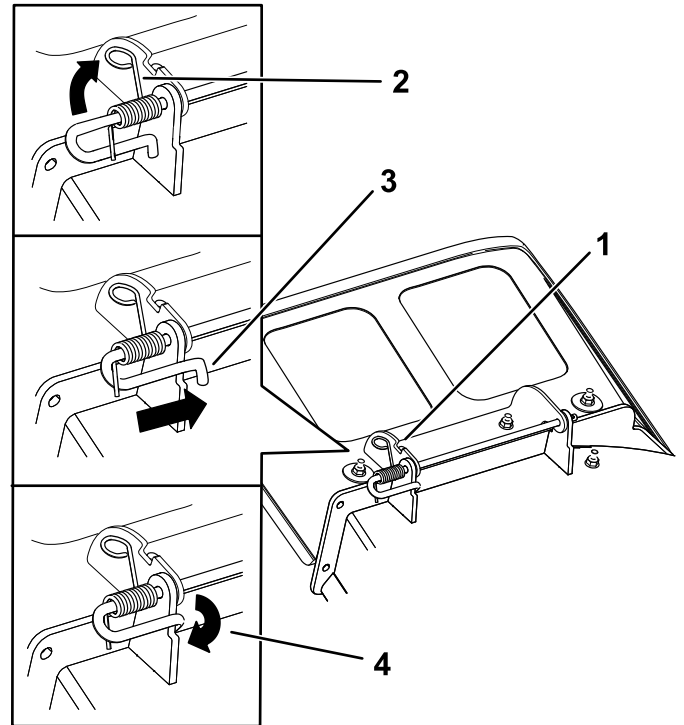

Figure 80
3. Position the new discharge deflector with the bracket ends between the welded brackets on the deck as shown in Figure 80.
5. Position the spring on the rod as shown in Figure 80 so that the shorter spring end comes from under the rod before the bend and going over the rod as it returns from the bend.
6. Lift the loop end of the spring and place it into the notch on the deflector bracket (Figure 80).
7. Secure the rod and spring assembly by twisting it so that the short end of the rod is behind the front bracket welded to the deck (Figure 80).